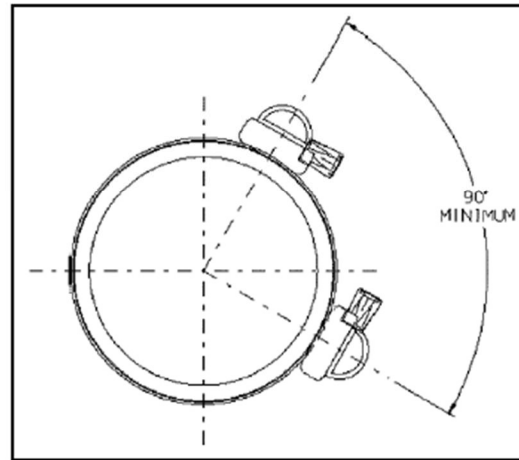

Figure 11
- 4.8 When the clamp is double, the more rigid part of the clamps, the tightening screw should be rotated by a minimum of 90 degrees apart to prevent any overlap. In most cases, both screw heads will look in the same direction, where the tool will be coming from. (see figure 11 & 12)